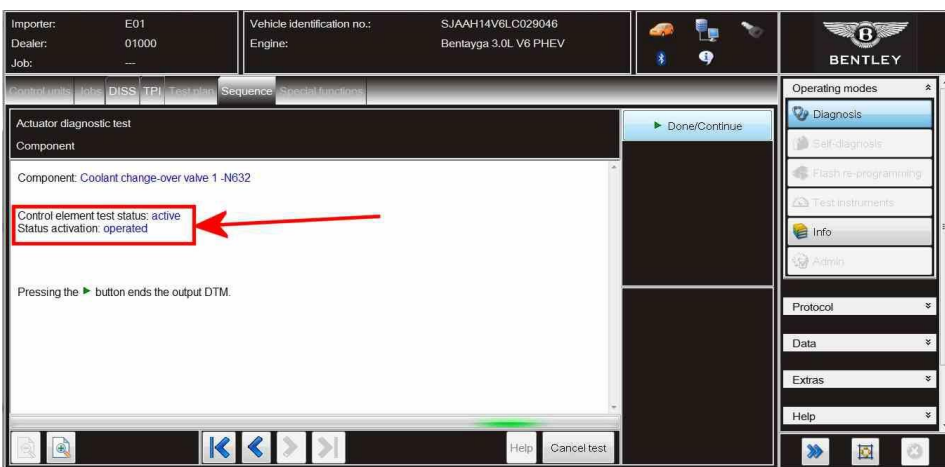

Figure 5
- The status should change periodically as shown in Figure 5